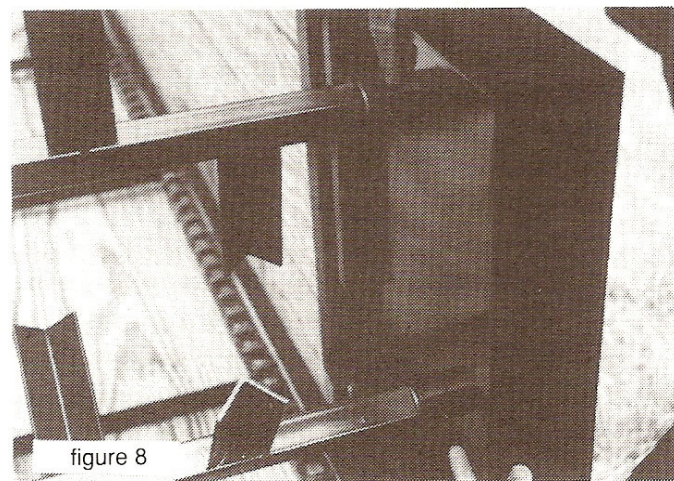

figure 8
15. Grease the beater bars at the fittings located on the right side (figure 8). Grease drag chain drive shaft at the fitting located at bottom rear of the drag chain drive transmission.